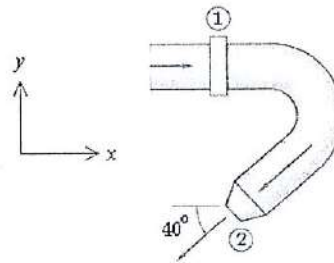

Figure 6 / Rajah 6
- c) Water flows through the horizontal elbow in **Figure 6** and exits to atmosphere. The pipe diameter $d_1 = 10$ cm while $d_2 = 3$ cm. At flow rate of 0.0153 m³/s the pressure at section 1 is 2.33 bar. If the weight of water and elbow is 30 kg, determine the magnitude and direction of force to hold the pipe in place.